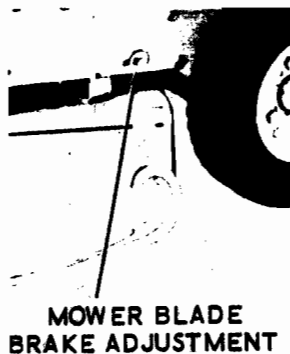

Figure 4
8. MOWER BLADE BRAKE ADJUSTMENT (Figure 4)
The blade brake release (figure 4) is located on the left side of the frame and is secured by a 5/16-inch whizlock screw. The blade brake release must be positioned properly in the slot provided so that the brake will stop the blade when the mower clutch is released. Adjust the blade brake release as follows: